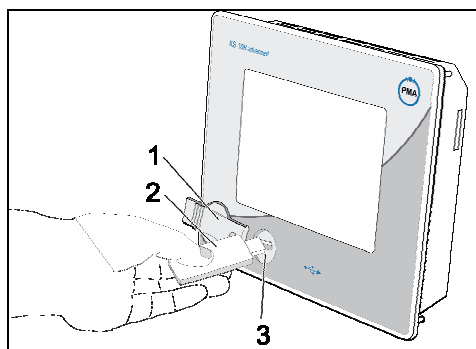

Fig. 53: Using the USB stick
1. **Inserting the USB stick:** Carefully lift the cover of the USB connection (Fig. 53/1) on the front of the device and turn it to the side. Now insert the USB stick (Fig. 53/2) in the connection (Fig. 53/3).